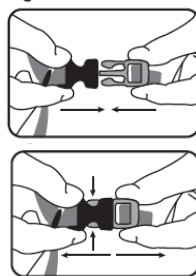

Fig. 5
5. Adjust the vertical position of the chinstrap by sliding the connecting buckle along the strap (Fig. 5).